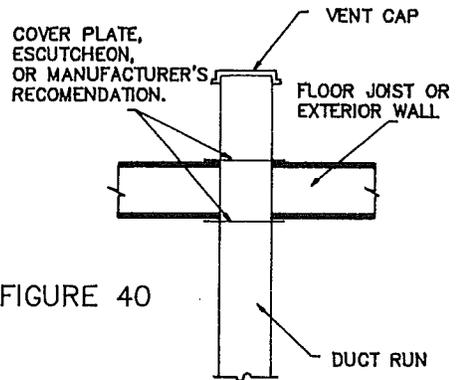

FIGURE 40
1. An access panel is located in the dryer area to provide access to the dryer end of the duct system. See figure 40.
2. Access to rough in from outside may be located on the bottom side of the floor or on an exterior wall. See figure 40.